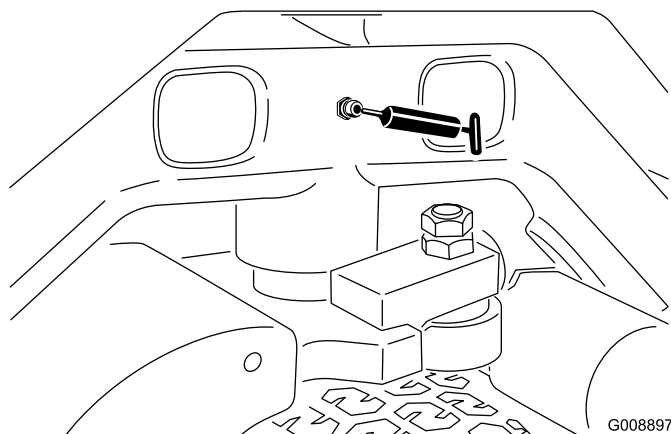

Figure 39
- Pivot de direction (Figure 39)